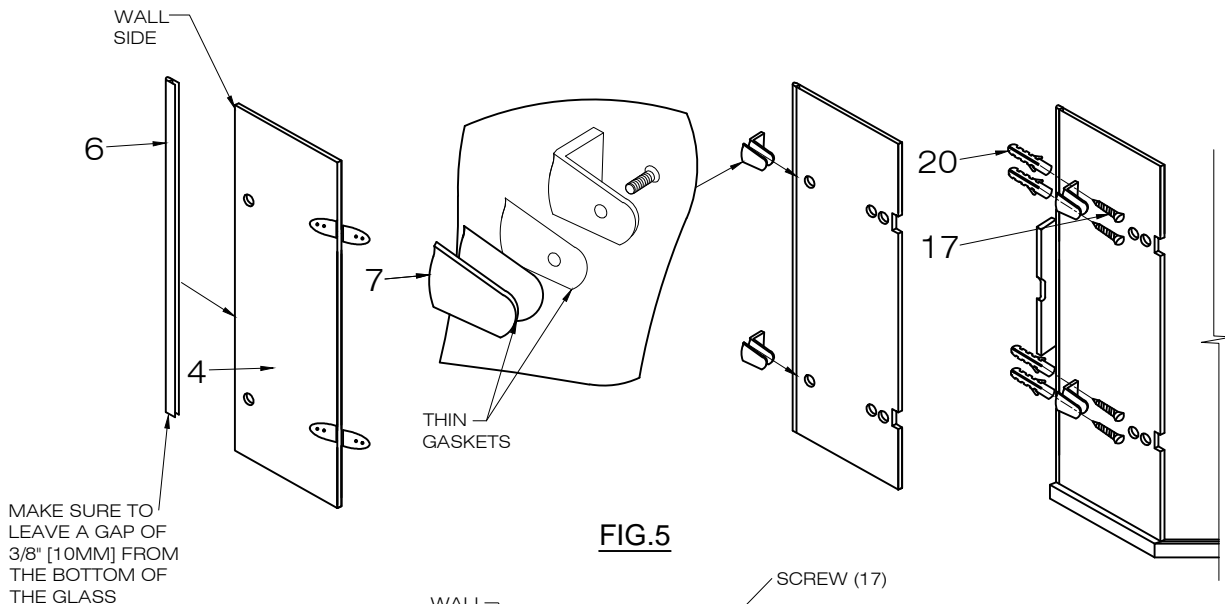

FIG.5
3. Install the side seal strip (#6) to the wall side of the hinged side glass panel (#4). [SEE FIG.5]